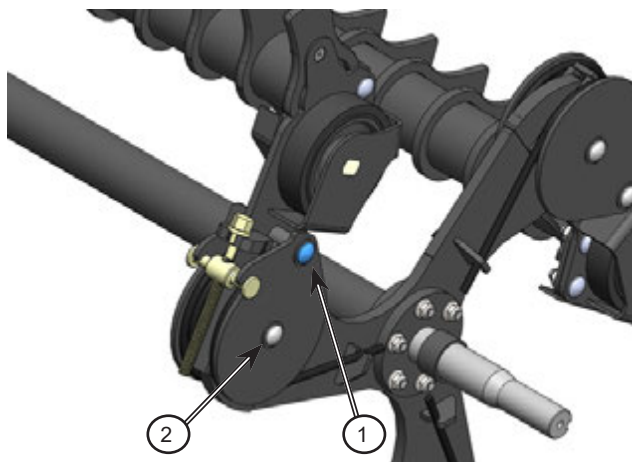

Figure 6.42: Install the locking bolts
5. Install the locking bolts (1) on both sides of the bat; see *Figure 6.42*.
6. Tighten the cover plate pivot bolts (2); see *Figure 6.42*.